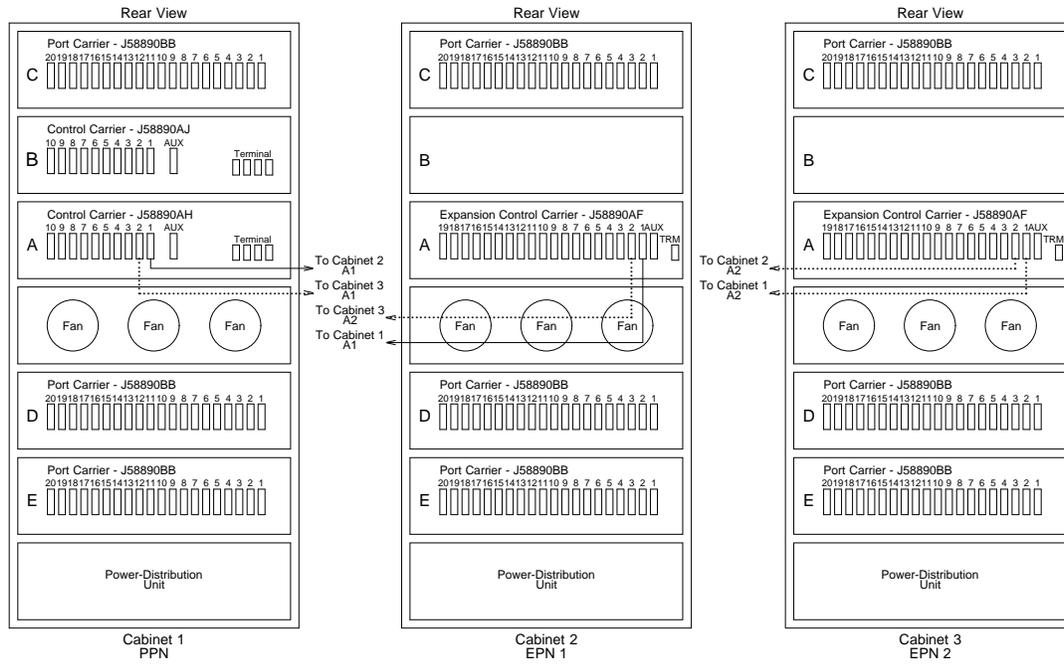
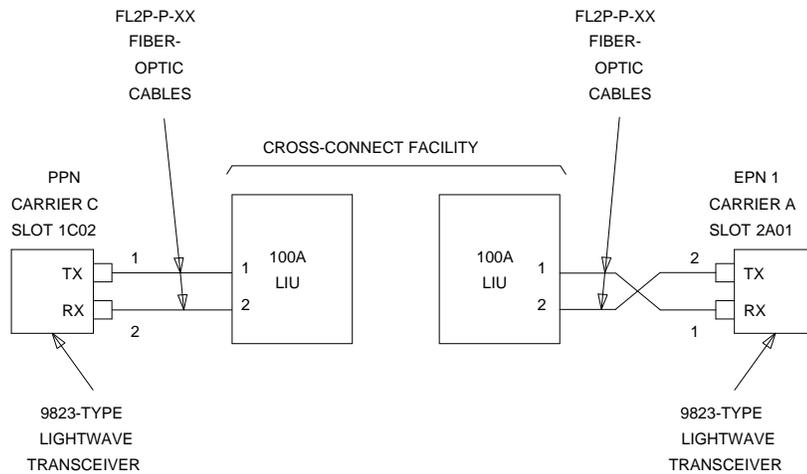
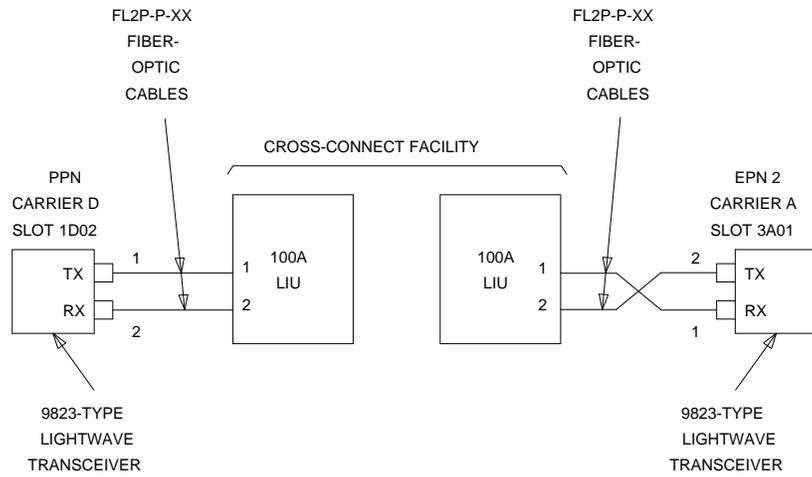
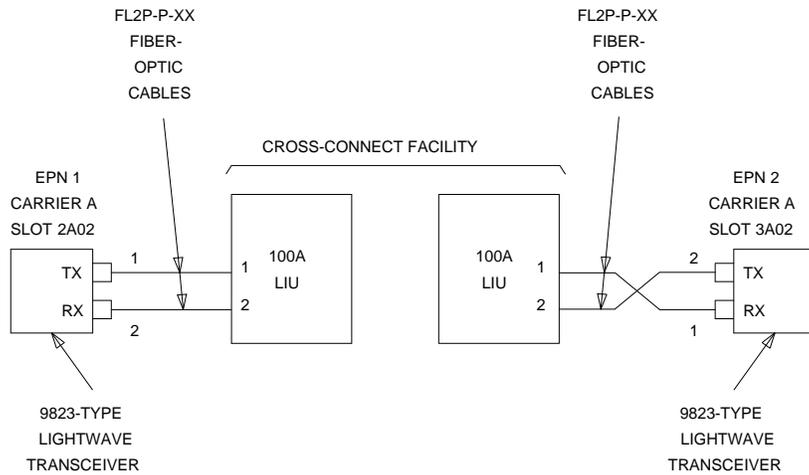

Figure 7-29. High-Reliability G3i V4 with Two or Three Port Networks
Figure 7-30. Fiber-Optic Connections PPN to EPN1
Figure 7-31. Fiber-Optic Connections PPN to EPN2
Figure 7-32. Fiber-Optic Connections EPN1 to EPN2
1. Behind control carrier A of PPN cabinet 1 (see Figure 7-29 on page 7-70, Figure 7-30, Figure 7-31, and Figure 7-32):